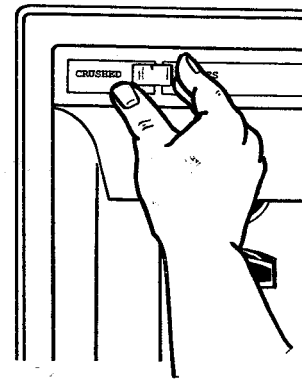

Figure 68
- Select CUBE or CRUSHED mode by sliding lever on front dispenser panel to chosen setting. See Figure 68.